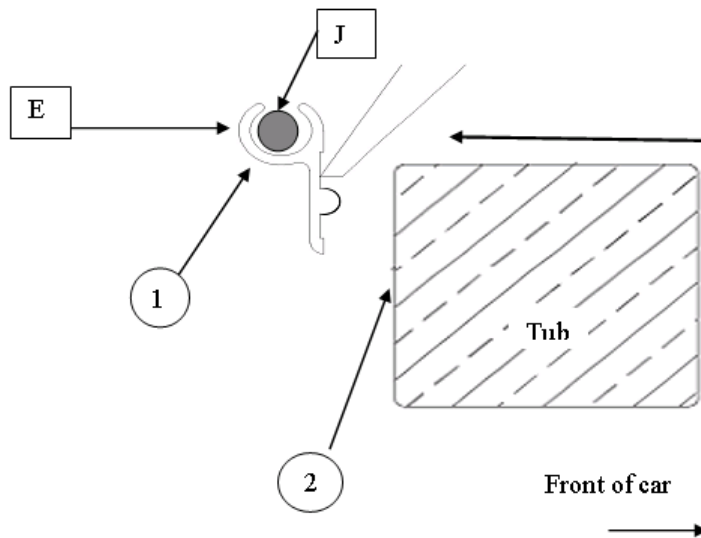

Figure 1: Placement of aluminium rope track. Ensure channel is above the tub's top edge.
1. Place the 2 pieces of dowel in the ends of the rope track. Ensure the flat side of the rope track is the surface positioned against the tub face. **See Figure 1.** With the Dowels inserted about half way in to the rope track ends rest the aluminium rope track on the side rails.